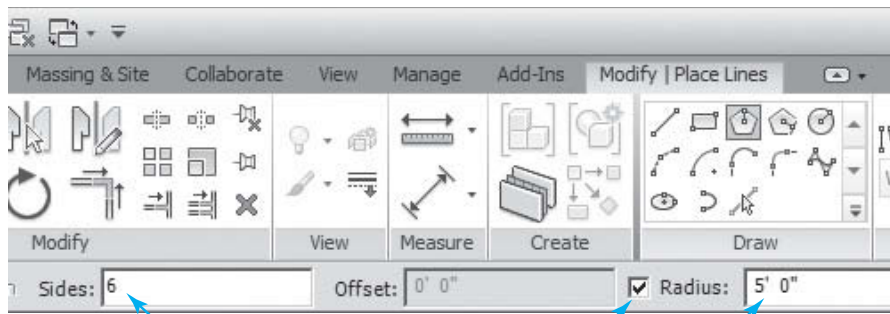

Figure 2-39
6. Click in the **Drawing Editor** to set a center point (see Figure 2-39).